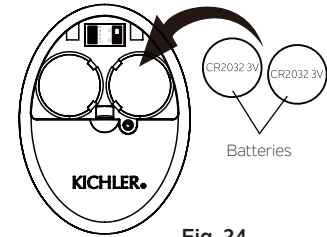

Fig. 24
Step 3. To make fan operational, install two 3V CR2032 batteries (included). (Fig. 24)